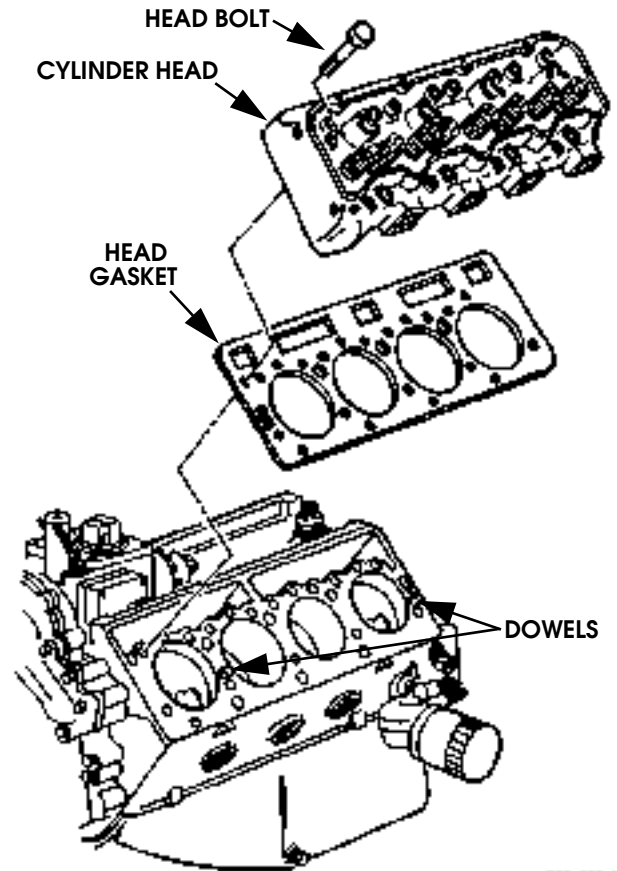

Figure 2-176: Cylinder Head and Gasket Installation
1. Place each head gasket on block deck and dowels (Figure 2-176).
2. Carefully position each cylinder head on gasket and on dowels (Figure 2-176).
- c. Rotate engine counterclockwise an additional 3 1/2 inches (89 mm), measured at mark on torsional damper. Damper mark should align with water pump first, lower attaching bolt at this point (Figure 2-176).